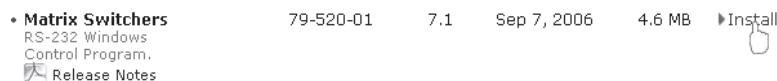

Figure 5-2 — Software installation
3. Scroll to the desired program and click Install (figure 5-2).